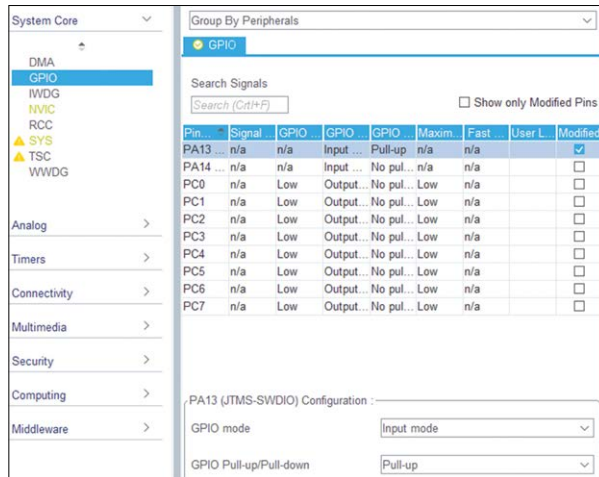

Figure 5.42: Enable the pull-up resistors at inputs.
- click **PA13a** and set the **GPIO Pull-up/Pull-down** to **Pull-up** as shown in Figure 5.42. Do the same for PA14;
Figure 5.42 shows the program listing (the comments are not shown for clarity). At the beginning of the program the LED and button connections are defined as follows: